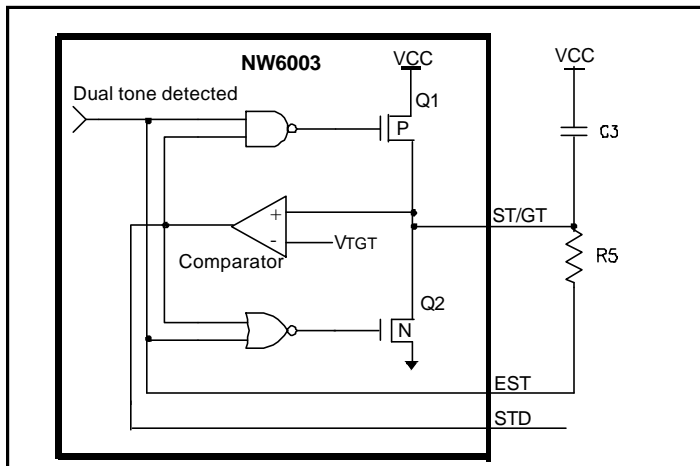
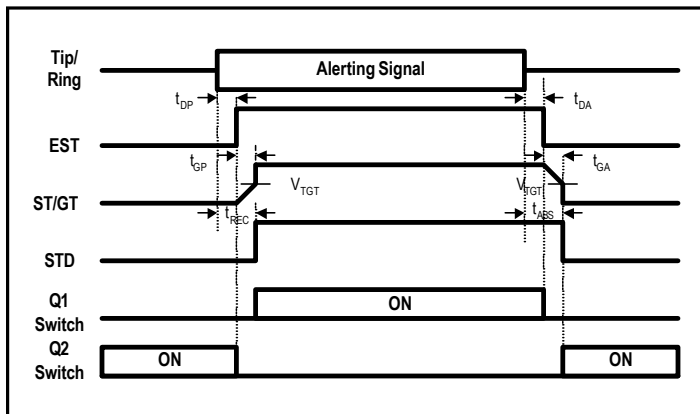
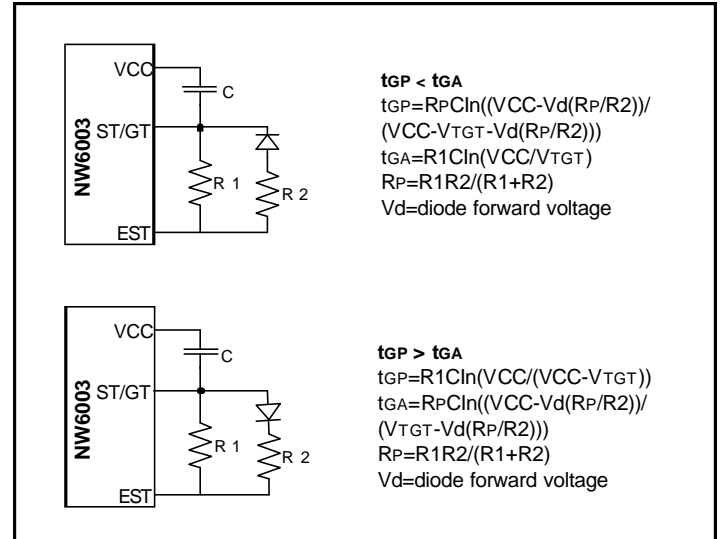

Figure 7. Guard Time Circuit of Dual Tone Alert Signal Detection
Figure 8. Guard Time Waveform
Figure 9. Guard Time Circuits with Unequal Present and Absent Times
Figure 7 shows the operation of the guard time circuit and Figure 8 shows the waveform of the EST, ST/GT and STD pins. The total recognition time is $t_{REC} = t_{DP} + t_{GP}$, where t_{DP} is the tone present detection time and t_{GP} is the tone present guard time. The total absent time is $t_{ABS} = t_{DA} + t_{GA}$, where t_{DA} is the tone absent detection time and t_{GA} is the tone absent guard time. The guard time is the RC time constant for the capacitor charge to VCC or discharge to GND. To get the unequal present and absent guard time, a diode can be connected as shown in Figure 9 to provide different RC time constant (varying resistance value) during charging and discharging.
When the system is first powered up, TRIGOUT will be low (C3 at TRIGRC has no initial charge) and STD will be high if PWDN is low (no charge across the capacitor at ST/GT pin in Figure 7), interrupt signal will be generated. The microcontroller should ignore interrupts from these sources on the initial power up until there is sufficient time to charge the capacitors. Also, by asserting PWDN high immediately after system power up, STD will become low and no interrupt will be generated. In power-down mode, EST and comparator output are forced low, the charging switch will turn on, and the capacitor at ST/GT pin will charge up more rapidly.
- 2) By choosing $t_{DA} = 15$ ms, t_{ABS} will be 15-25 ms (refer to Figure 8). Current wetting pulse and AC/DC load should be applied right after the STD falling edge.